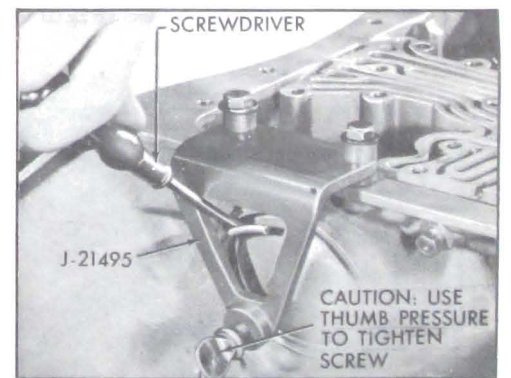

Figure 5-305
4. Compress low servo cover with J-21495 and install retaining snap ring. See Figure 5-305.